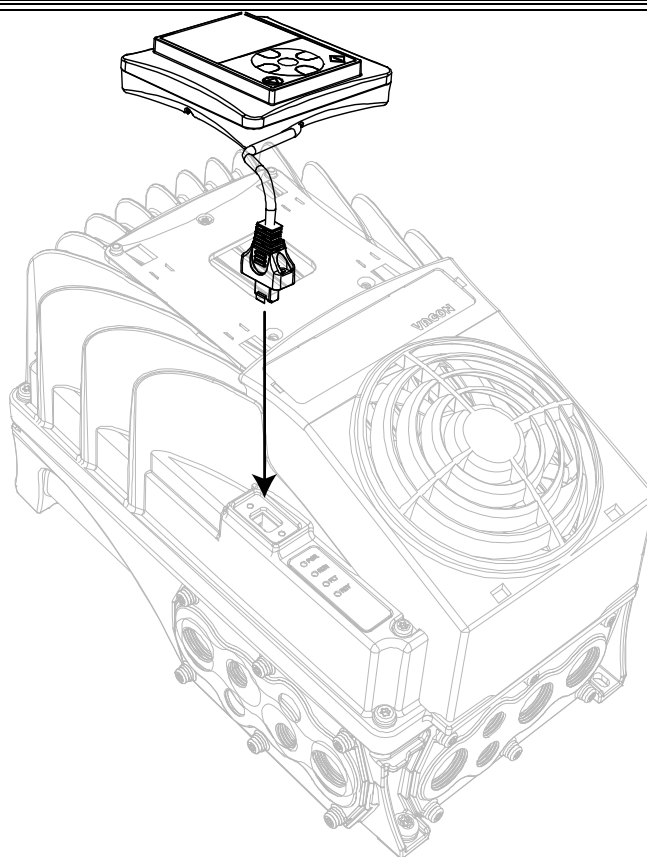

Figure 53. Mounting of the keypad.
- Connect the keypad to the drive and plug the cable on the HMI connector as shown in the Figure 53 and in the Figure 54.